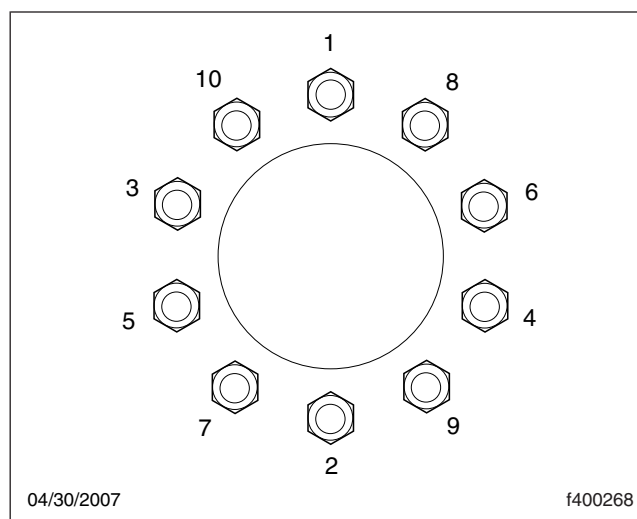

Fig. 22.4, Tightening Pattern, 10-Hole Wheels
- 4.3 Make sure all wheel nuts are tightened. If tightening is necessary, use the tightening pattern in Fig. 22.4 to initially tighten the flange nuts to 50 to 100 lbf-ft (68 to 136 N·m). Then tighten the flange nuts to 450 to 500 lbf-ft (610 to 678 N·m).